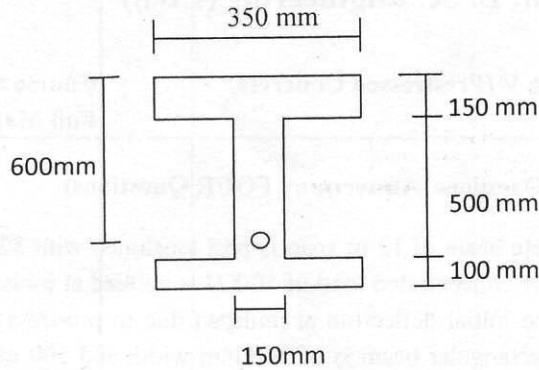

Figure 2
4. (a) Determine the ultimate moment capacity of the section (Figure 2) of a prestressed concrete system. Use $f'_c = 38 \text{ MPa}$, $E_{\text{prestressing}} = 220000 \text{ MPa}$, $E_c = 30000 \text{ MPa}$, $f_{pu} = 1860 \text{ MPa}$, $f_y = 415 \text{ MPa}$ and effective prestress $f_{se} = 1000 \text{ MPa}$. $A_s = 1400 \text{ mm}^2$. (16)